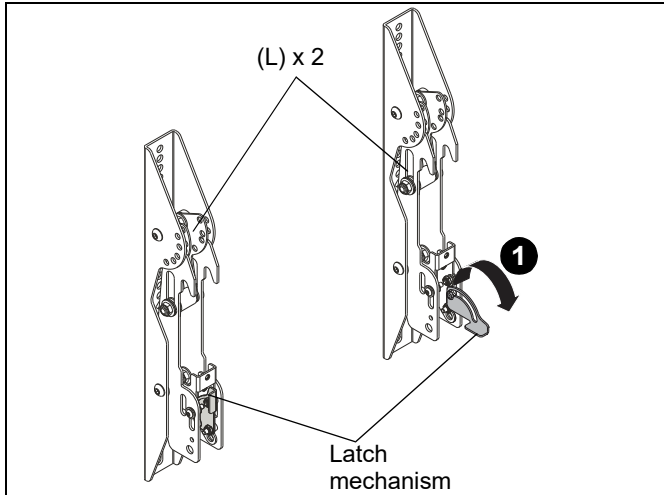

Figure 4
1. Lower the latch mechanism on each interface bracket (L). (See Figure 4)
1. Ensure that the latch mechanisms on interface brackets (L) are already lowered. (See Figure 4)